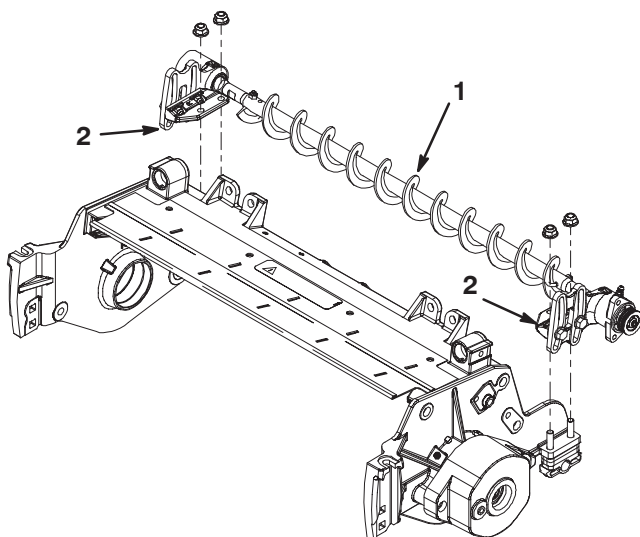

Figure 8
8. Position the roller brush assembly mounting brackets onto the roller bracket cap screws (Fig. 8). Secure the brush assembly mounting brackets to the cutting unit side plates with the nuts previously removed.